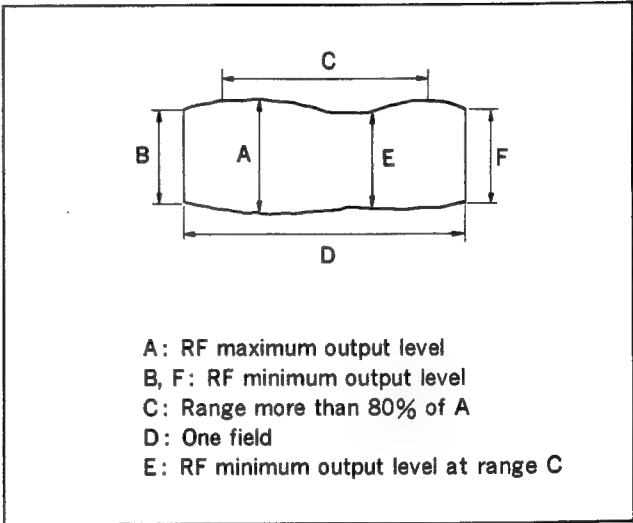
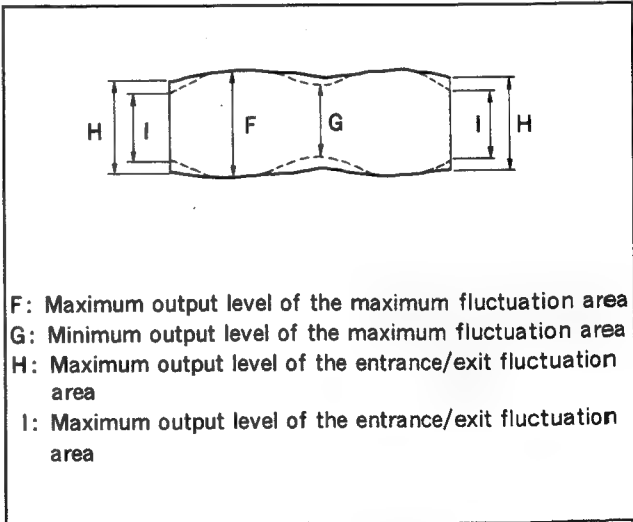

Fig. 6-11-1 Form of RF output wave shape
Fig. 6-11-2 RF fluctuation wave shape
3. Press [STOP] to stop. Rewind the recorded portion, and press the [PLAY] button. Check the RF envelope (Fig. 6-11-1) and fluctuation (Fig. 6-11-2).